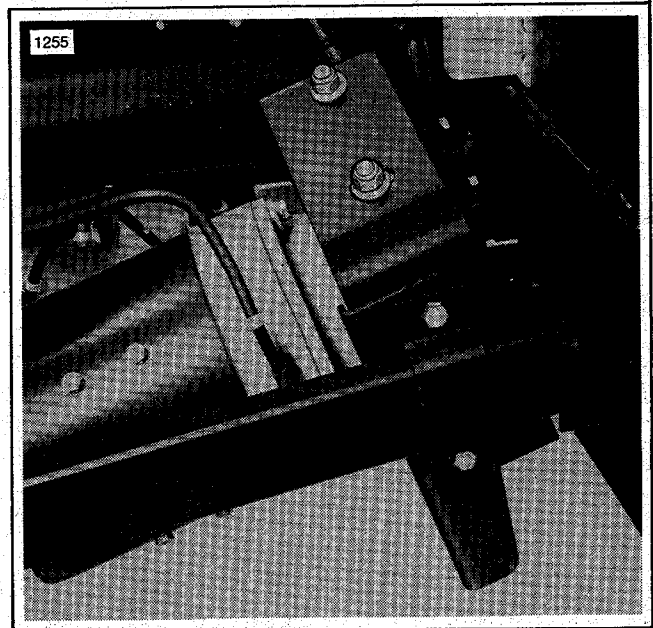

Figure 2-25. Brake Bracket Mounting Bolts
1. Remove the two bolts which secure brake bracket to swing arm, and remove bracket and brake caliper together (Figure 2-25).